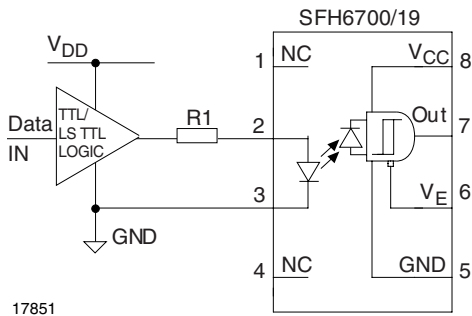

Fig. 2 - Series LED Drive
Figures 2 and 3 are two of the most commonly used circuits. The designer chooses R₁ according to the equation:
$$R_1 = \frac{V_{OH} - V_F}{I_F} \quad (\text{valid for Figure 2}) \quad (1)$$
Both circuits are simple and feature a minimal component count with low power dissipation. A logic source drive, as shown in figure 2, is not recommended due to speed and current limitations (especially in the CMOS logic family), and lower common mode transient immunity.